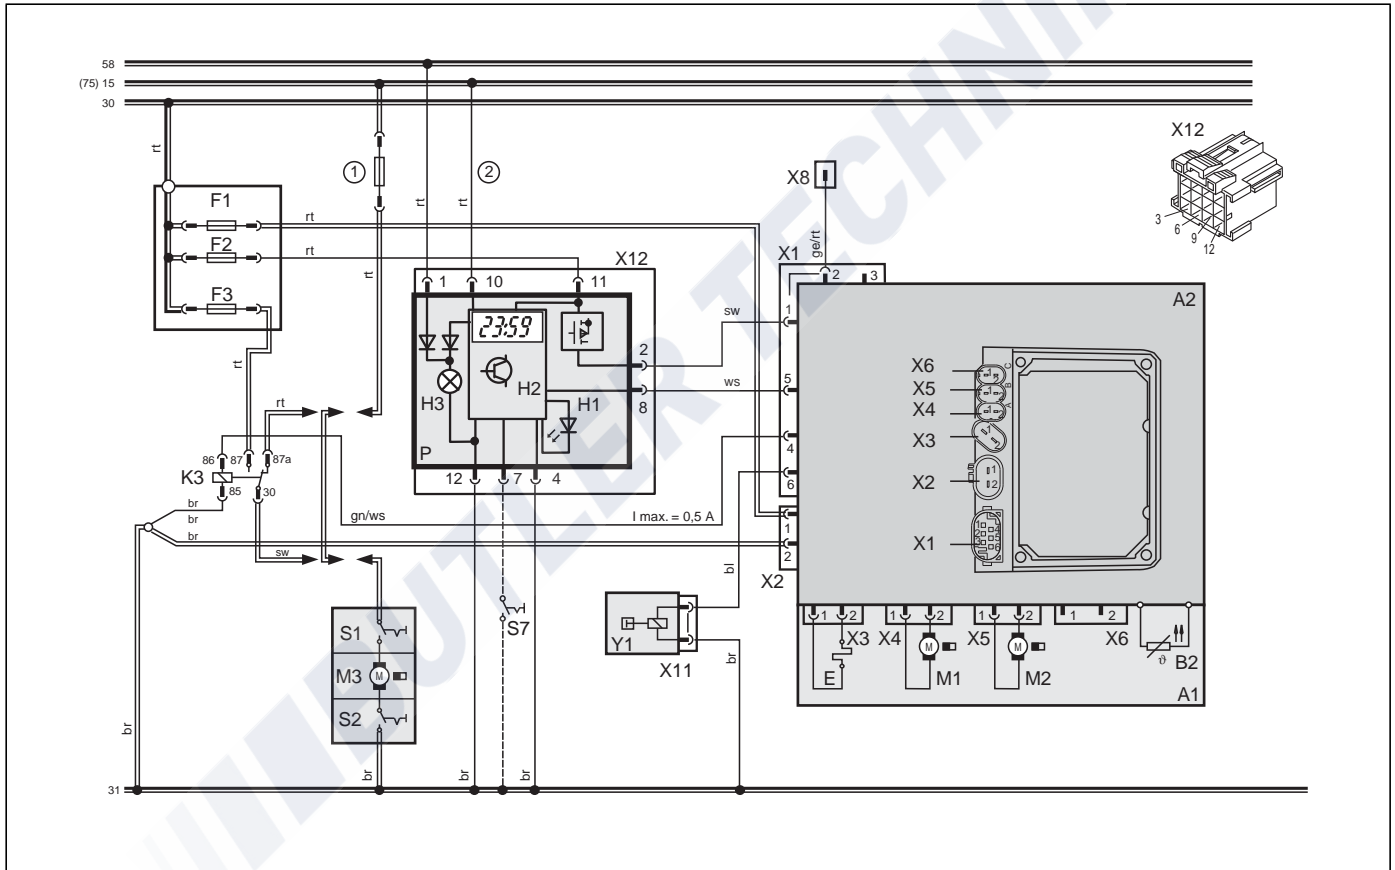

Fig. 17 Circuit diagram for Thermo 50, 24 V timer (legend see page 45)
The electrical connection of the heaters is made as shown in Figs. 17 to 22.
- Timer see circuit diagram Fig. 17.
The vehicle's own heater fan is controlled using a relay, see circuit diagram Figs. 17 to 22, or using a relay with a cabin thermostat.